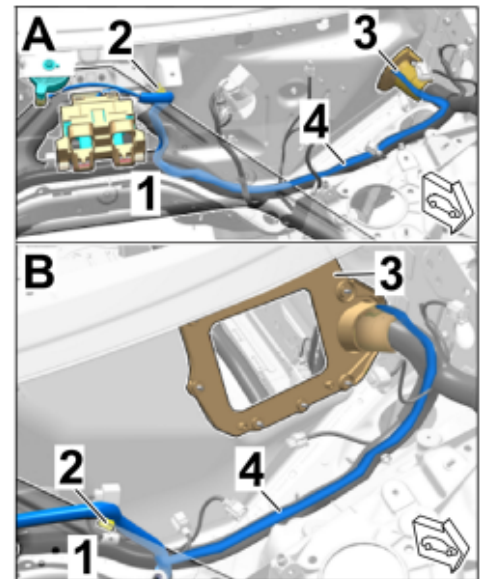

Figure 17
2.3.2 Lay the wire harness for the engine noise to the grommet on the firewall (in the A-pillar plenum panel area – left) (⇒ Figure 17):